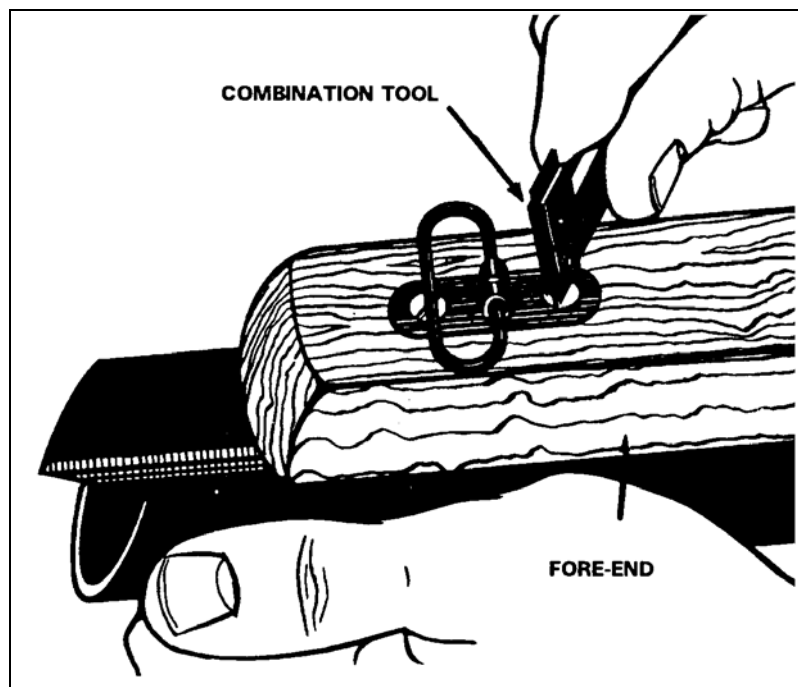
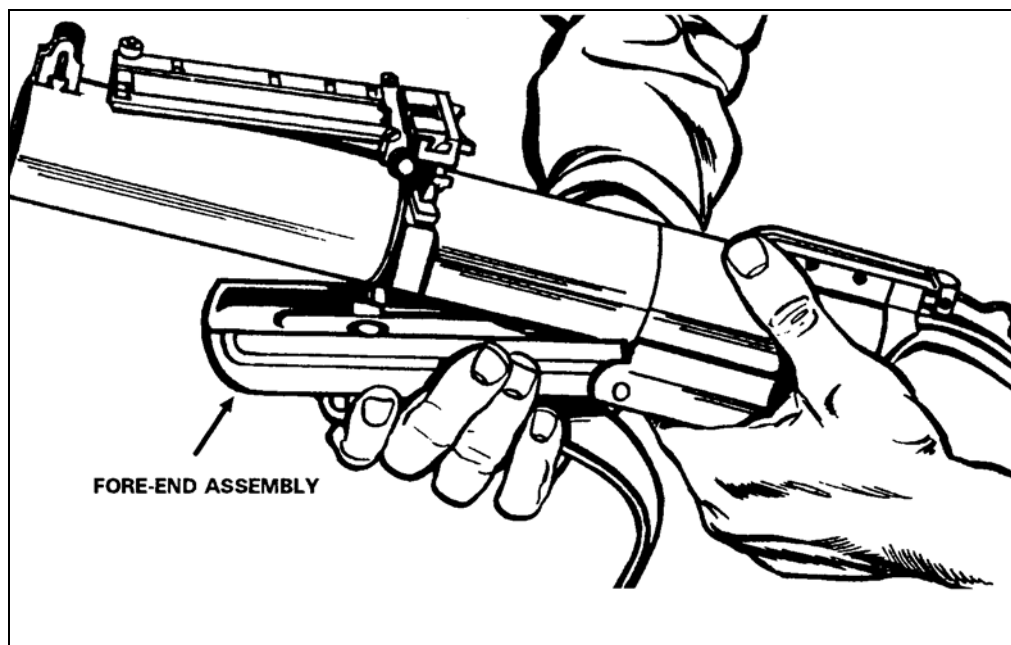

Figure A-8. Removing or installing the retaining band screw.
Figure A-9. Removing or installing the fore-end assembly.
- b. Remove the retaining band screw, which passes through the rear of the front sling swivel mount, and pull the fore-end assembly away from the barrel (Figure A-8 and Figure A-9).